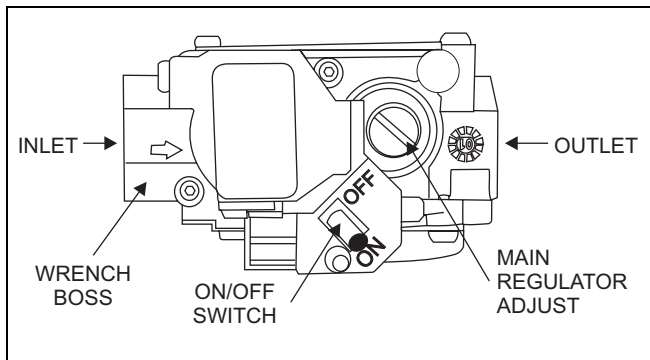

FIGURE 16: WHITE RODGERS GAS VALVE
6. Move gas valve control lever or switch to "OFF". See Figure 16.
7. Wait five (5) minutes to clear out any gas. Then smell for gas, including near the floor. If you smell gas, STOP! Follow "2" in the safety information above. If you don't smell gas, go to the next step.
This furnace is equipped with a gas shutoff lever or switch on the gas valve, which can be used to prevent gas from flowing to the furnace. Figure 16 shows the location of the shutoff lever or switch. To turn off gas to the furnace, move the lever or switch to the "OFF" position.
The parts listed below are only those that are functional parts and those that might require replacement. The parts listed are by part name (description) only and CODE reference NUMBER. The CODE number is used to determine the location of the part in the generalized, pictorial illustration provided. See Figure 16.